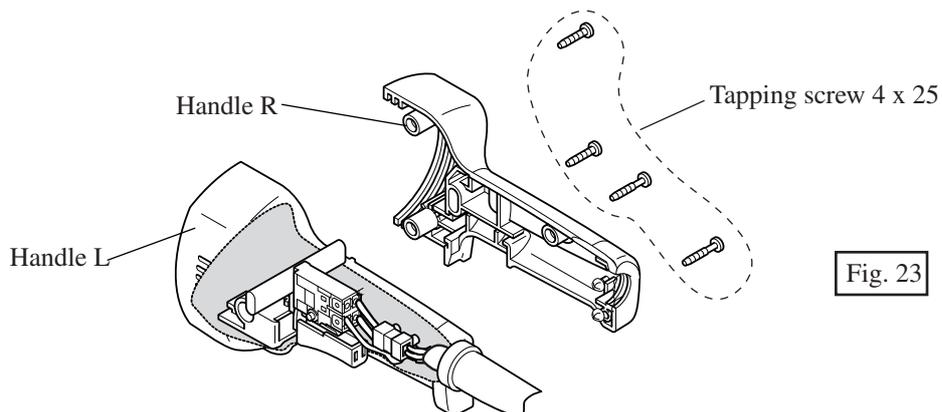

Fig. 23
1. Separate handle R from handle L by unscrewing 4 pcs. of tapping screws 4 x 25 as illustrated in Fig 23.
After installing the inner parts illustrated in Fig. 23, into handle L, assemble handle R to handle L by screwing 4 pcs. of tapping screws M4 x 25.